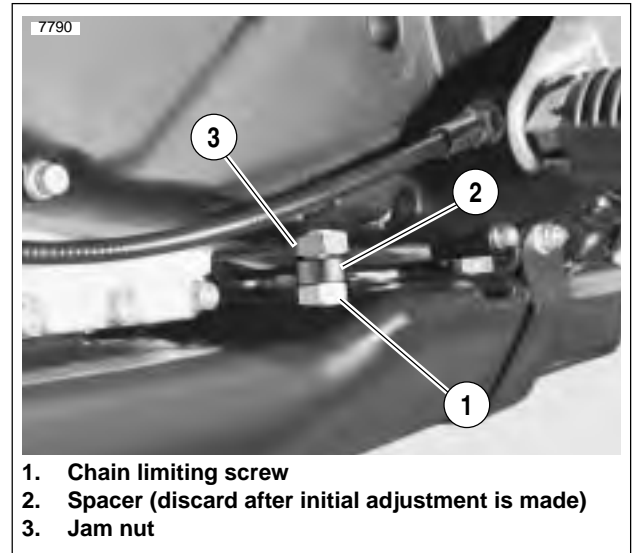

Figure 1-22. Adjustment Nut with Spacer
See Figure 1-22. Buell Blast Models are shipped with a spacer between the primary chain limiting screw and the lock nut. The spacer is used to quickly get proper adjustment during production. This spacer should be removed and discarded at the first adjustment interval.
1. See Figure 1-22. Back-off jam nut (3) and chain limiting screw (1).
2. Remove spacer (2).